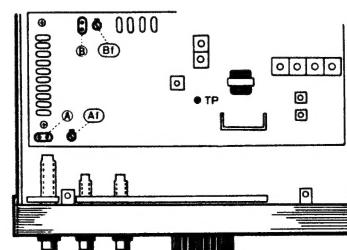
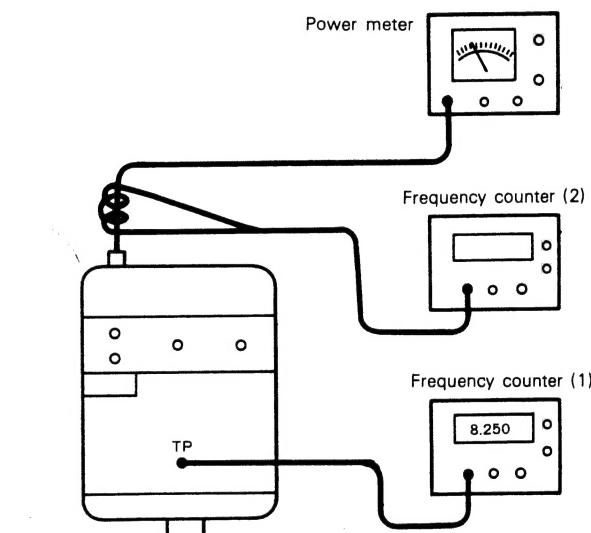

FIG. 18 INSTALLATION OF OPTIONAL CRYSTALS
FIG. 19 FREQUENCY ADJUSTMENT
Remove the upper lid of the case fixed with 2 screws. Then, insert the crystal of desired channel into the crystal socket on the printed circuit board (Fig. 18).
- (1) Connect the frequency counter (1) to the TP terminal and the power meter to the ANT terminal (see Fig. 18 and Fig. 19).
- (2) Perform adjustment on the bands of additional channels by referring to Table 3 below.
- (3) Connect the frequency counter to the point (2) and set the unit in CW transmit mode. Change the position of the channel indicator from A to B, C and D to check that the frequency increases by 5kHz at each position.
| Band | Channel Indicator | Adjusting Frequency | Adjusting Trimmer (Fig. 18) |